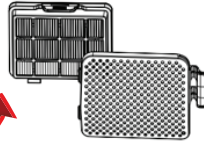

Fig.13
- 2) Remove the filter by pushing down the protrusion on the top of the filter (Fig. 13).